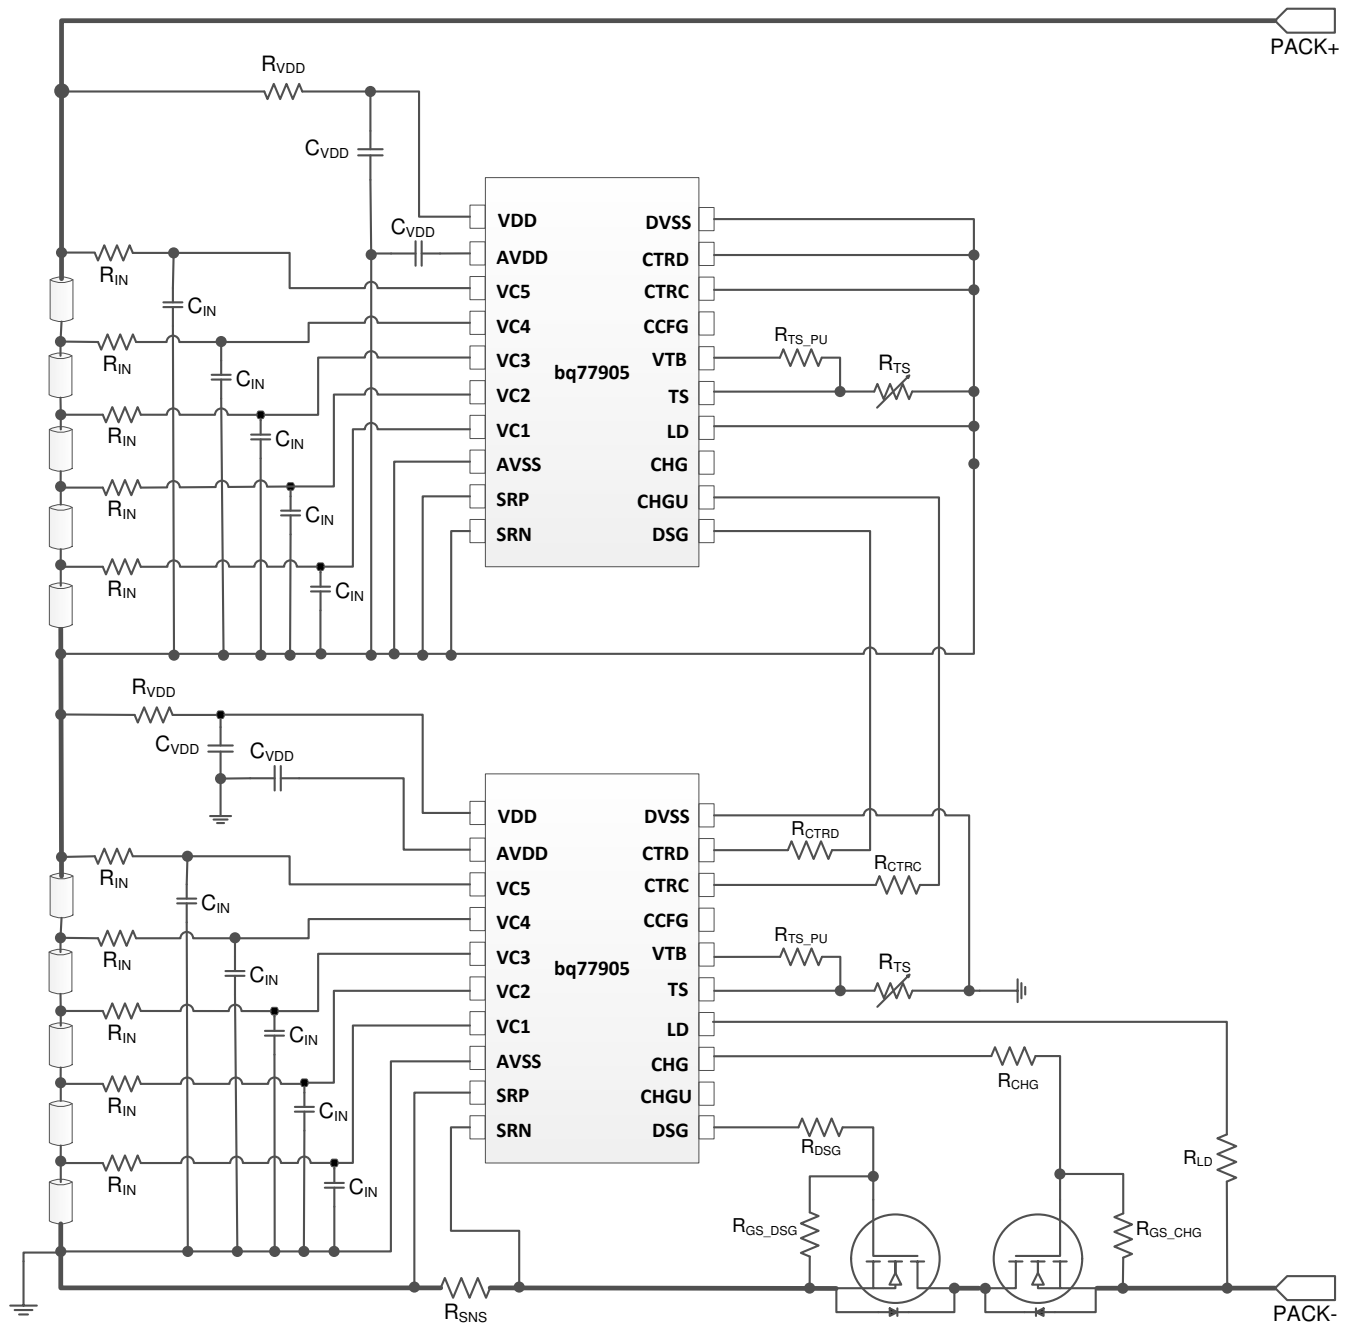
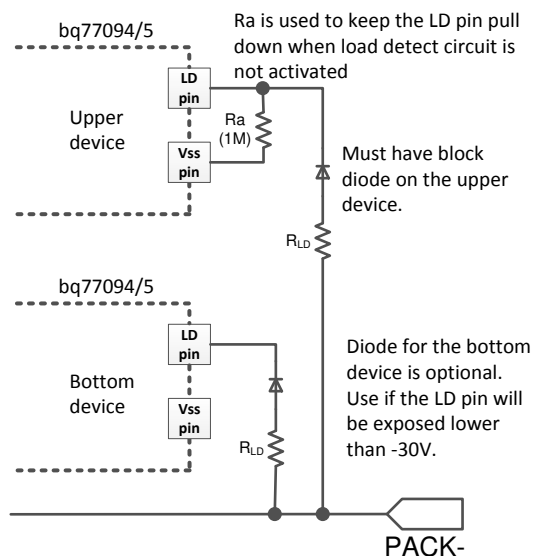

Figure 8-9. 10S Pack Using Two BQ77905 Devices
Figure 9-7. Simplified Circuit: LD Connection on Upper Device When Using for UV Fault Recovery
- If load removal is not used for UV recovery, connect the upper device LD pin to its AVSS pin, as shown in Figure 8-9 and Figure 8-10. Otherwise, refer to Figure 9-7 for proper LD connection.
To ensure load removal is detected properly during a UV fault, TI recommends to use 3.3 M Ω for R_{GS_CHG} (instead of a typical of 1 M Ω when load removal is NOT required for UV recovery). R_{CHG} can stay in 1 M Ω as recommended when using CHG FET protection components. The CHG FET rise time impact is minimized as described in the Protecting CHG FET section. On a stacked configuration, connect the LD pin, as shown in Figure 9-7 if load removal is used for a UV fault recovery. If load detection is not required for a UV fault recovery, a larger value of R_{GS_CHG} can be used (that is, 10 M Ω) and the LD pin on the upper devices can be left floating.